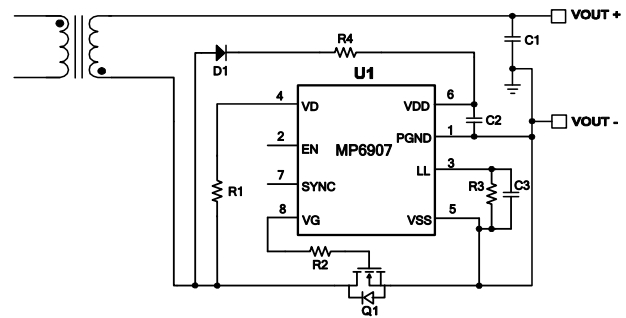

**Figure 10: IC Power Derived from the Auxiliary Winding in Low-Side Rectification**
If the output voltage is out of the VDD operating range or high-side rectification is used, an auxiliary winding solution for the IC's power supply is recommended (see Figure 10 and Figure 11). The auxiliary winding turn count ( $N_{au}$ ) can be set using Equation (2):